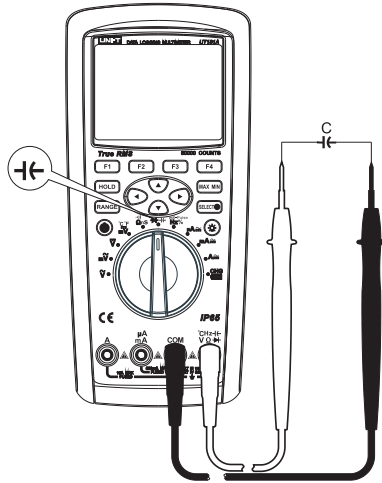

Figure 9
- 2) Set the rotary switch to the measurement $\overline{C}$, press the key SELECT to select capacitance measurement. Connect the test leads to both ends of the measured capacitance as shown in Figure 9.